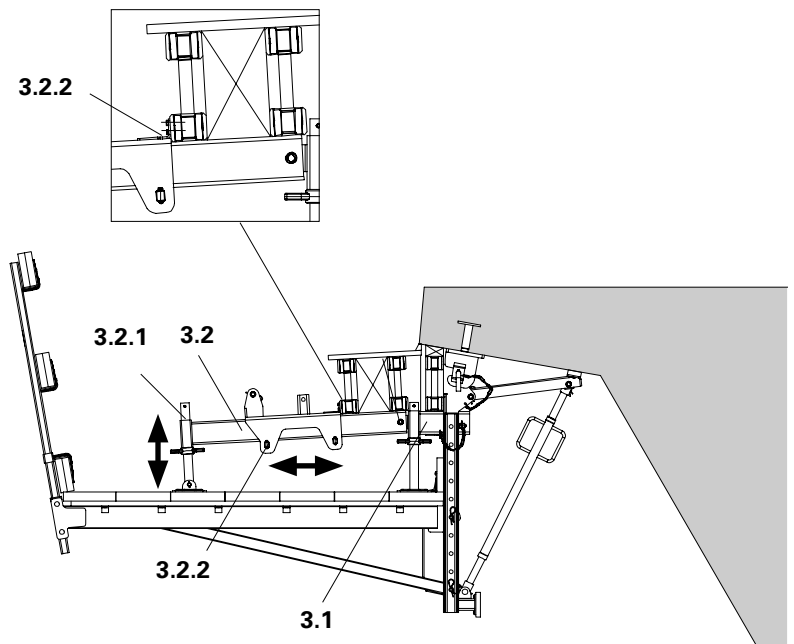

Fig. B3.02
5. Fix both wedges on the guide carriage using a sledge hammer (5 kg). (Fig. B3.02)